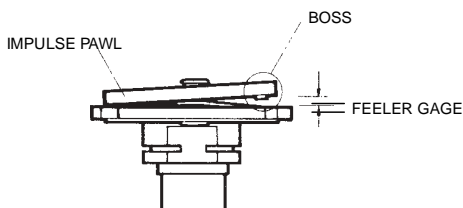

Figure 3.3.4D
11. Maximum clearance for pawls with one (1) boss is 0.150 inch. Maximum clearance for pawls with two bosses is 0.150 inch for left-hand rotation couplings and 0.140 inch for right-hand rotation impulse couplings. If the feeler gauge can pass between the full width of the boss and the pawl plate, replace the impulse coupling. See Figure 3.3.4D. For coupling rotation, see magneto data plate.